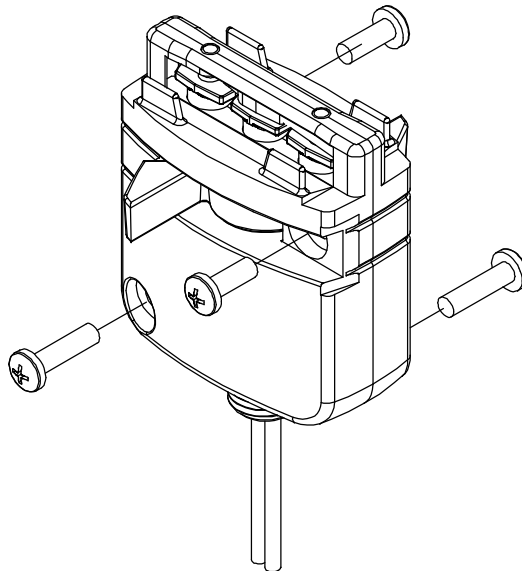

Figure 13
4. Align the connector halves and re-install the four screws to body. Recommended screw torque is 1.8 N•m [15.93 lb-in.]. See Figure 13.